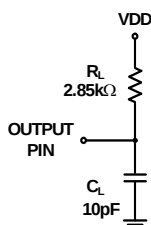

FIGURE 4. EQUIVALENT LOAD CIRCUIT
- During characterization, t_{DISABLE} is measured from the release point with a 10pF load (see Figure 4) and the equivalent timing using the AD7452 loading (25pF) is calculated.